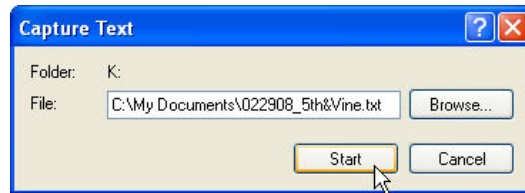

FIGURE 23
2. The '**Capture Text**' window appears see Figure 23 below. Enter a path and file name appropriate for the BBS unit. The example uses a date and intersection to designate the BBS. When finished click the **Start** button. The communication session will now be logged. The file will be saved automatically upon exit of HyperTerminal.